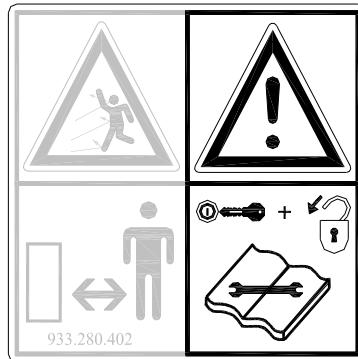
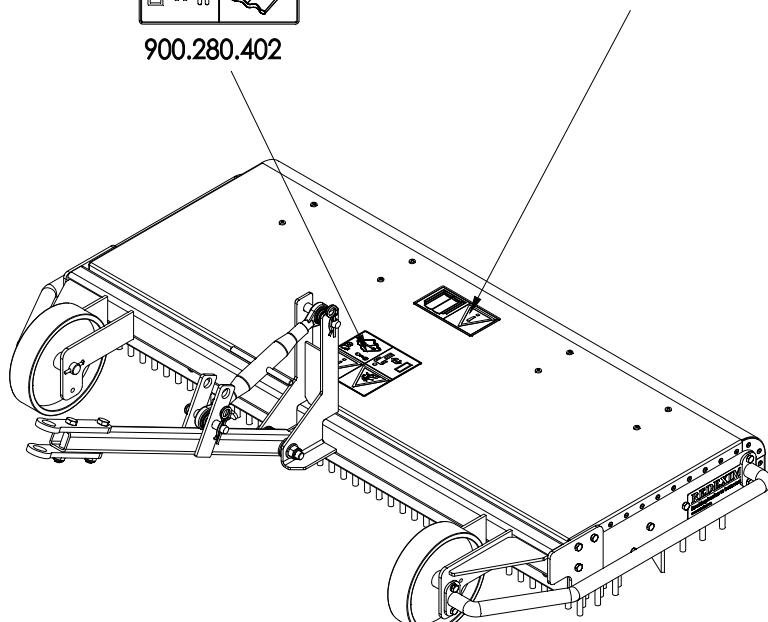

Fig. 2
Fig. 5
when performing maintenance, adjustment and repair activities (Fig.2)
There are safety stickers (Fig. 2, 3 and 4) on both sides of the Court-Top (Fig. 5) with an identical meaning. These safety stickers must be clearly visible and legible at all times and replaced when damaged.
(7) Locations of safety stickers. (Fig. 5)